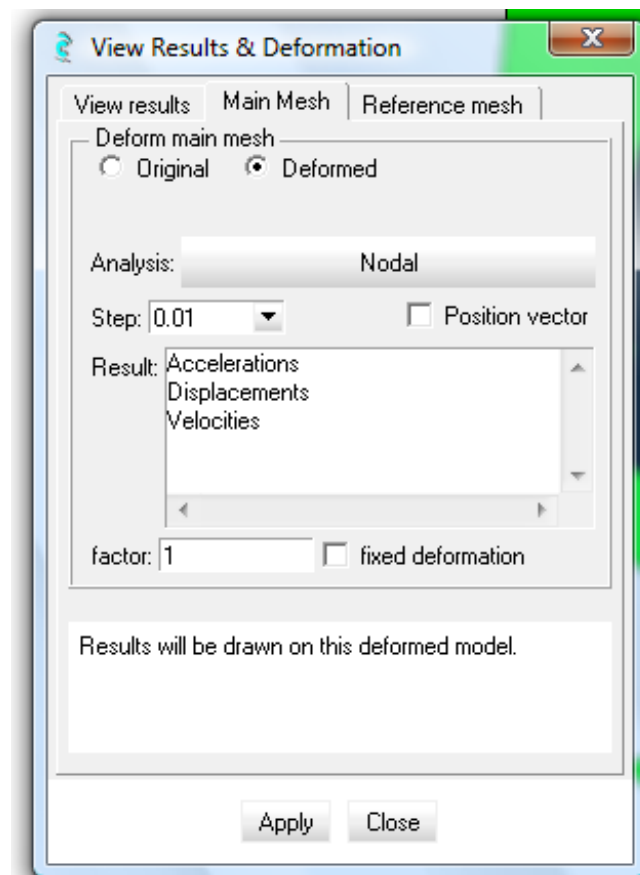

Figure 8. Main result selection
2. In Main Mesh Flap, tick *Deformed* and select *nodal* as Analysis type and *Displacements* as results (Figure 8).